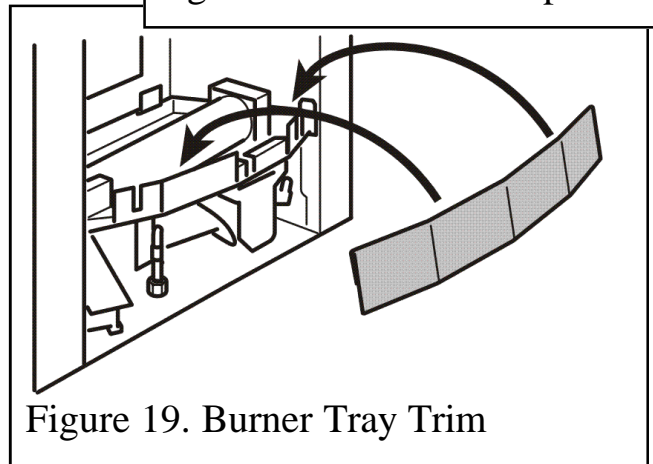

Figure 19. Burner Tray Trim
1. Fit the burner tray trim over the front rim of the burner tray. Push the trim fully down (See figure 19).